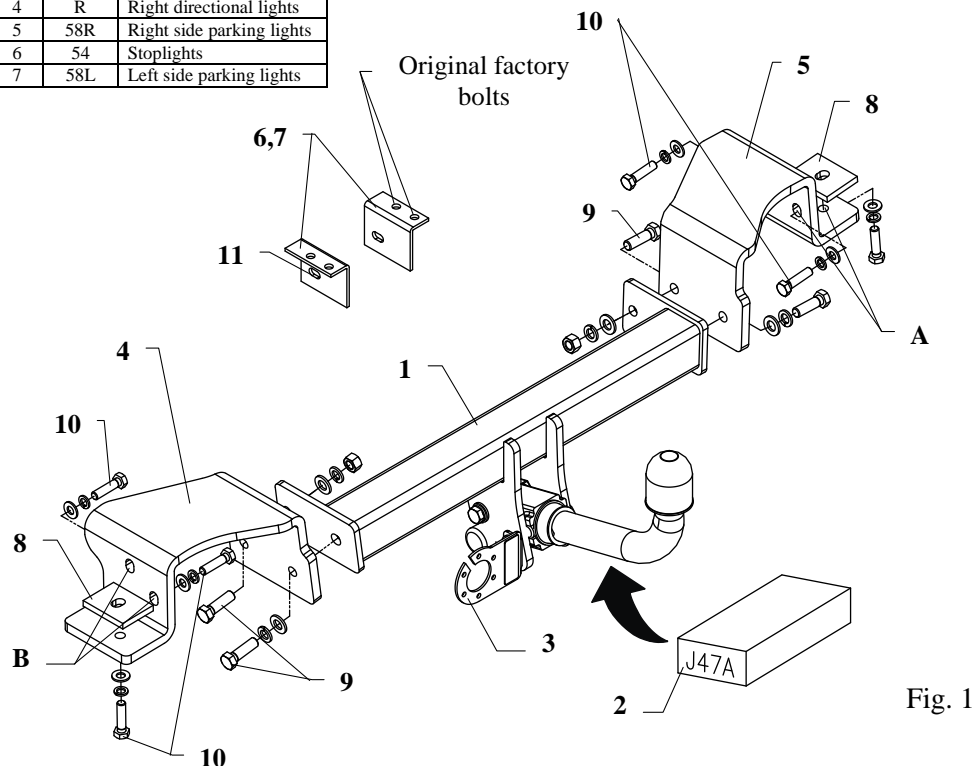

Fig. 1
5. Elements (pos. 4 and 5) put to chassis members (holes pos. A and B must agree with original points of towbar mounting) and fix it using bolts M10x1,25x40mm – poz. 11 (loosely), put washers (pos. 15) under bolts – see fig. 1.
6. Between elements (pos. 4 and 5) slip main bar of the towbar (pos. 1) and screw it using bolts M12x40mm (pos. 10).
7. Fix body of the automat and place tow-ball according to supplied instruction. Note! Remember to place socket plate (pos. 3) as shown on the drawing 1.